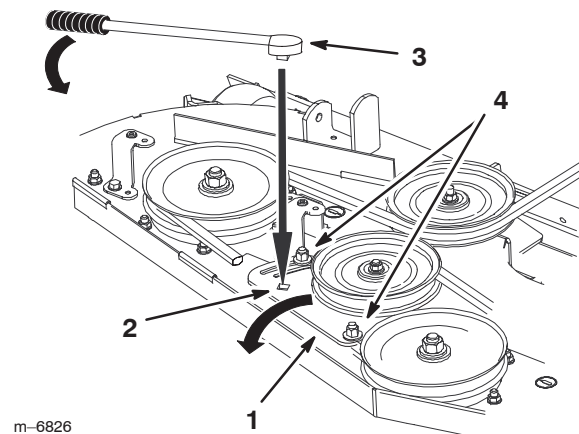

Figure 75
4. Loosen the nut securing the idler plate and move the idler plate to relieve the belt tension on the idler pulley (Fig. 75).
5. If adjustment is required, loosen the mower idler plate and adjust it (Fig. 75).
6. Insert a ratchet or breaker bar into the square hole in the mower idler plate to adjust the tension (Fig. 75).
7. To increase belt tension, rotate the mower idler plate until resistance is felt and rotation stops. Do not go past when it stops (Fig. 75).
8. Tighten the idler plate bolts (Fig. 75).
10. Adjust the belt tension and the idler plate, if necessary, and tighten all hardware securely (Fig. 75).